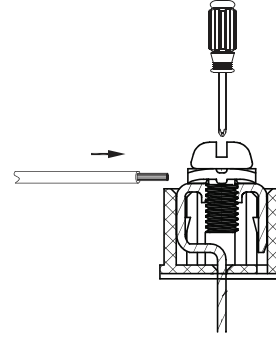

Fig. 27 — Connecting Communication Wire to Outdoor Unit Communication Terminal
3. Use a suitable screwdriver to fix the communication wire on the outdoor unit communication terminal as shown in Fig. 27 below.